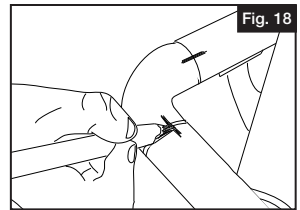

Fig. 18
3. Insert the joiners (included with corner) into the corner. Dry fit the assembled corner with the lineals. If all components are aligned properly, make reference marks (Fig. 18).